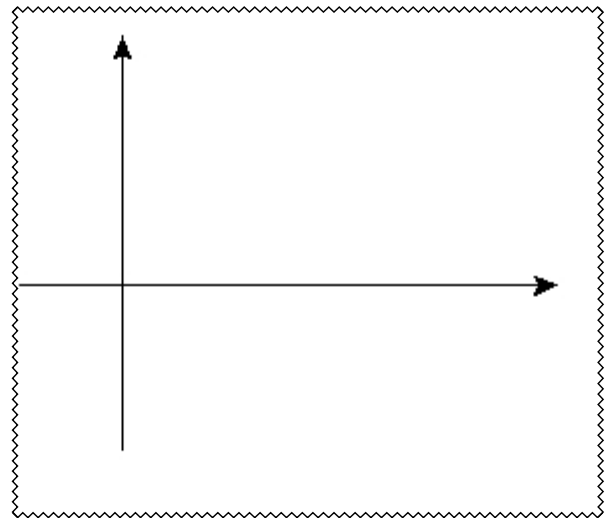

Fig. 3
15. Repeat the previous steps to find the new frequency response and sketch a new Bode plot in Fig. 3.